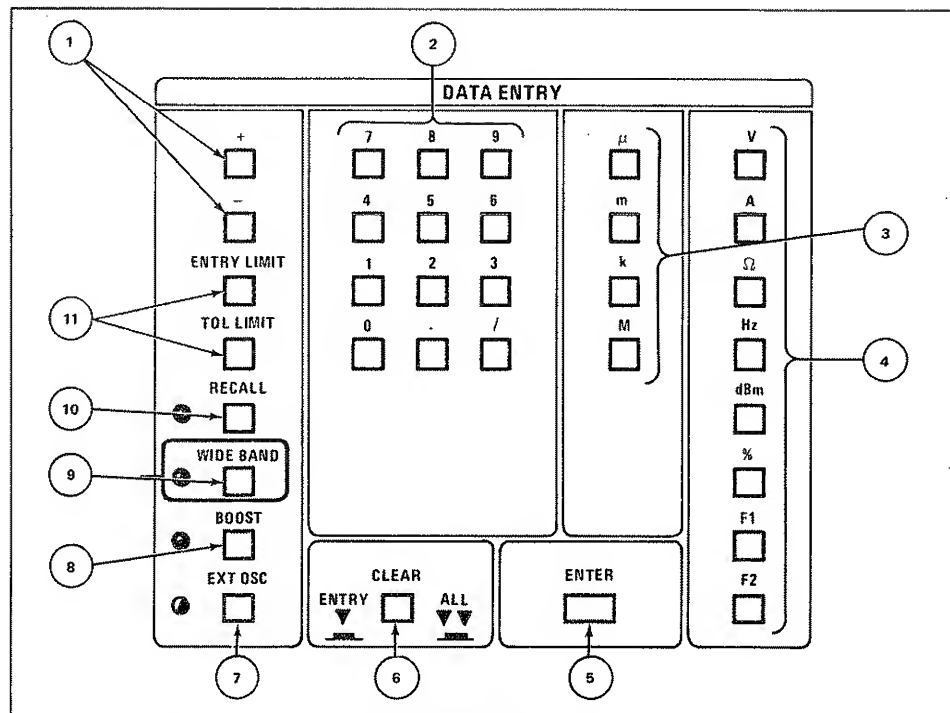

Figure 2-2. Data Entry Group
2-16. Individual items or groupings on the Data Entry keyboard are explained in Figure 2-2 and Table 2-3. In addition, a voltage (V), dBm entry, WIDEBAND or EXT OSC selection will lock the keyboard from further entries until either the ENTER, RECALL or CLEAR switch is depressed. If either "Err3" or "Err4" result when ENTER is depressed, the original entry is not changed and the KEYBOARD indicator remains illuminated.